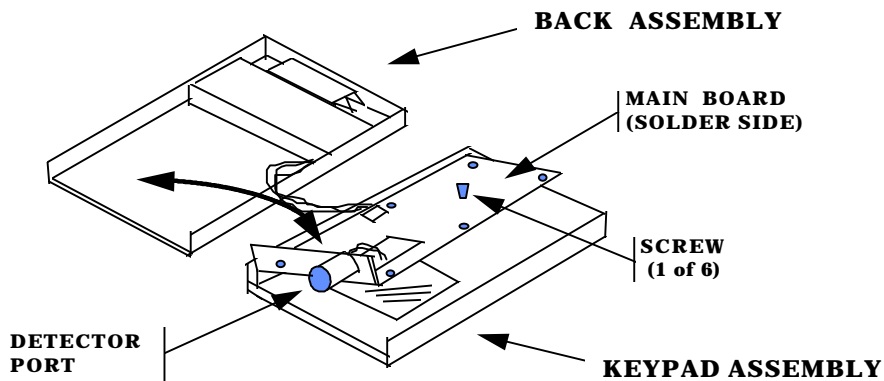
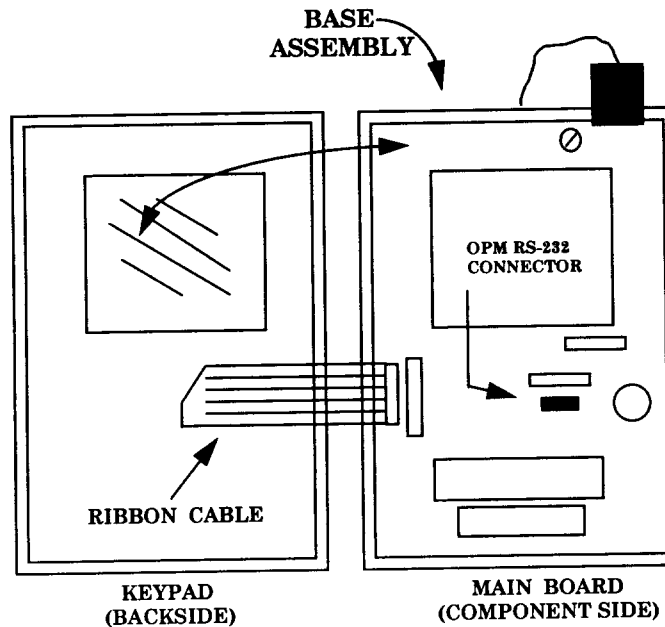

Figure 2. OPM back assembly removal from main board and keypad assembly.
Figure 3. OPM RS-232 connector location.
- (1) Ensure OPM power is turned **OFF**.
- (2) Remove six screws from back of OPM case.
- (3) Carefully lift **BACK ASSEMBLY** up and away from **MAIN BOARD** and **KEYPAD ASSEMBLY** (fig. 2).
- (4) Remove six screws from **MAIN BOARD** (fig. 3).
(5) Carefully lift MAIN BOARD (fig. 2 and 3) and place on BACK ASSEMBLY (fig. 2); leave RIBBON CABLE connected (fig. 3).
(6) Connect RS-232 cable to OPM RS-232 CONNECTOR (fig. 3) and other end of RS-232 cable to serial port on computer.
(7) Place floppy disk containing calibration software in disk drive (obtain **A:** prompt) and type **TS4358**, then press **ENTER** key on computer keyboard.
(8) Press **ON/OFF** pushbutton to **ON**.
(9) Follow instructions which appear on screen.